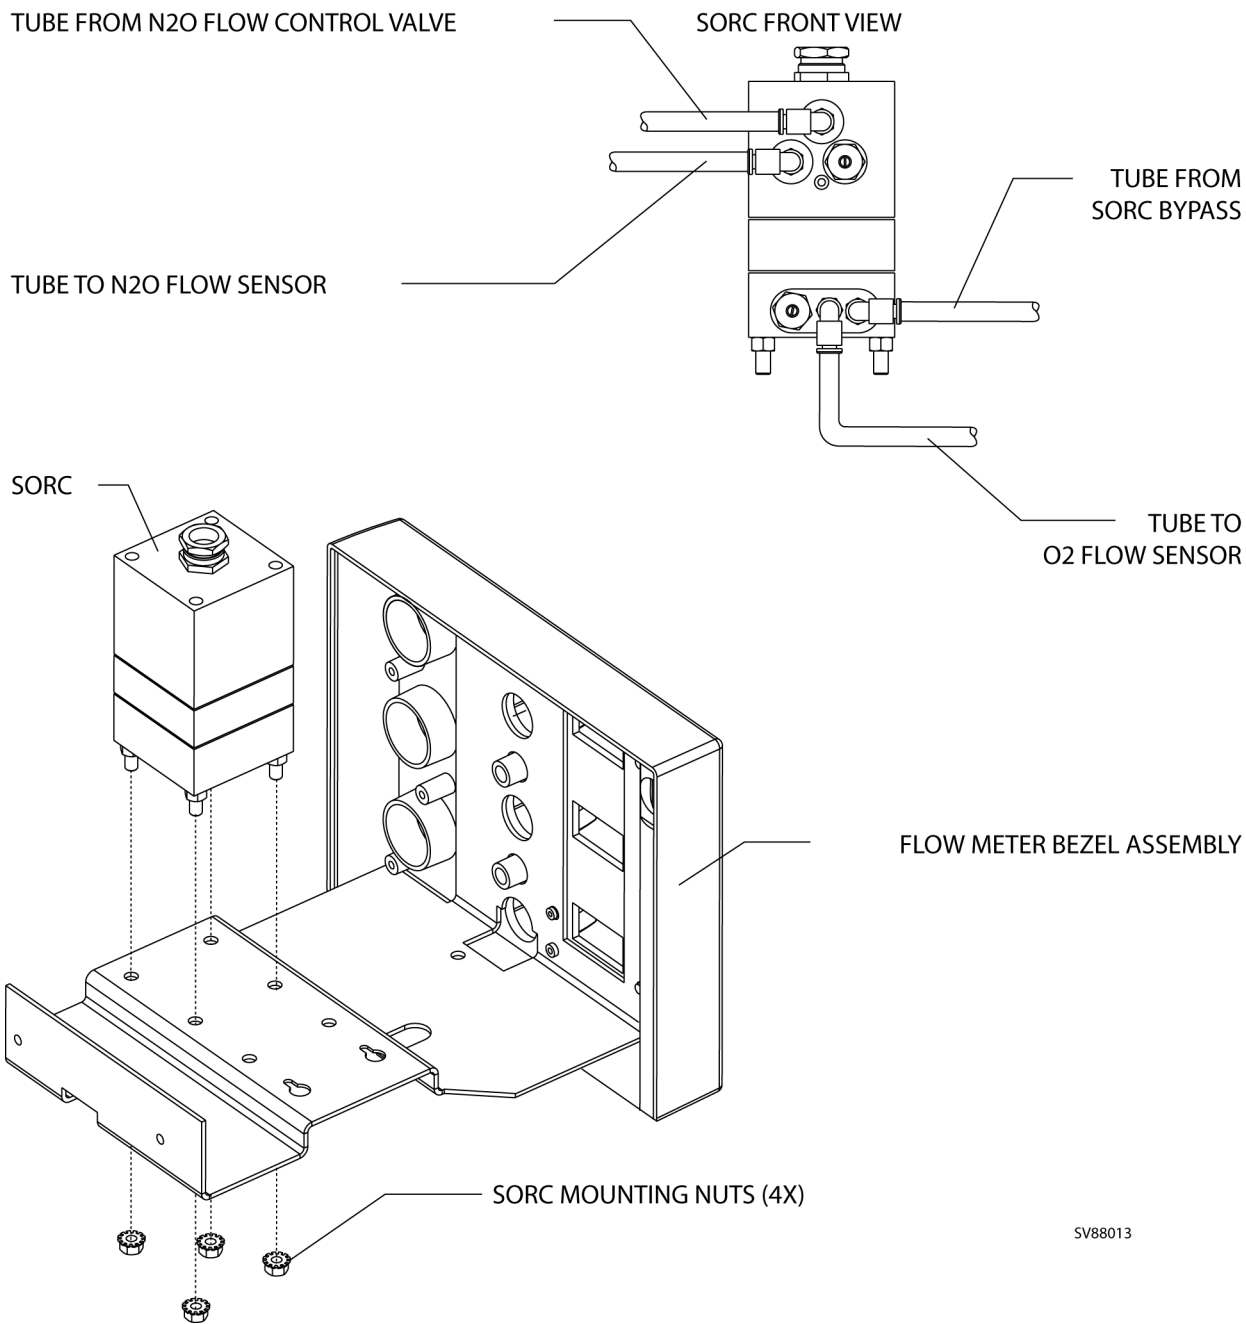

Figure 26 SORC
Access to the SORC requires removal of the Flow Meter Bezel Assembly. Figure 26 shows the tubing and mounting arrangement for the SORC. For clarity, other sub-assemblies are not shown in the illustration.
9. Disconnect the tubing from the SORC where shown in Figure 26. Mark these tubes so they can be reattached to the replacement SORC in the same manner.